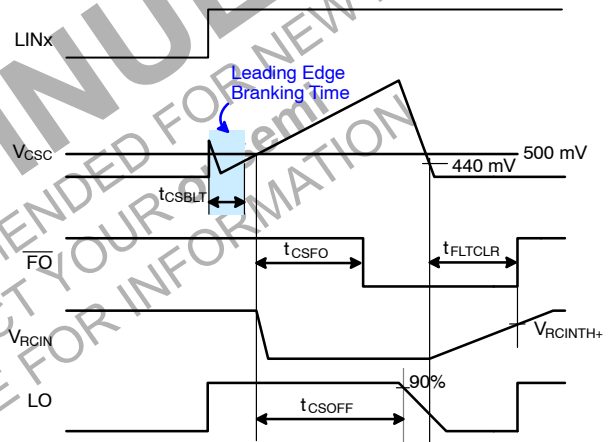

Figure 43. RCIN and Fault-Clear Waveform Definition
Figure 43 shows the waveform definitions of RCIN, \overline{FO} , and the low-side driver; which uses a soft turn-off method when an under-voltage condition of the low-side gate driver supply voltage (V_{DD}) or the current-sense pin (CS) recognizes a fault. If a fault condition occurs, the \overline{FO} Pin is internally pulled to COM and all outputs (HO1, 2, 3 and LO1, 2, 3) of the gate driver are turned off. Low-side outputs decline linearly by the internal sink-current source ($I_{SOFT} = 40 \text{ mA}$) for soft turn-off, as shown in Figure 43.